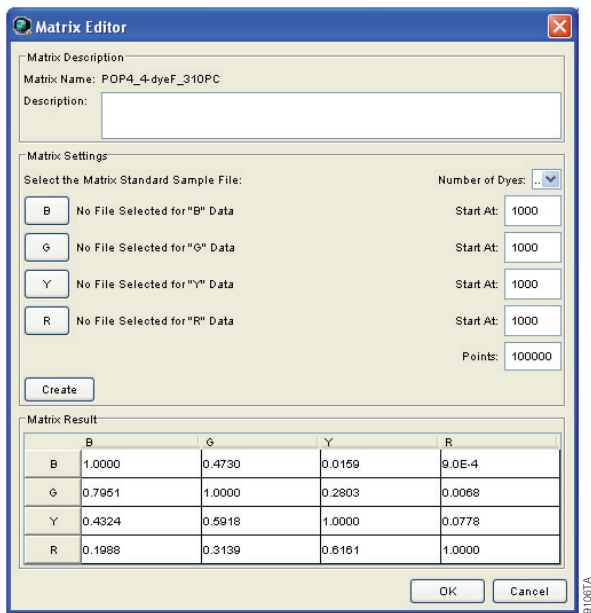

Figure 1. The Matrix Editor.
6. Define the new matrix in the Matrix Editor (Figure 1).
Note: The Matrix Name, "Start At" values and Matrix Result values shown in Figure 1 will change, depending on your instrument.